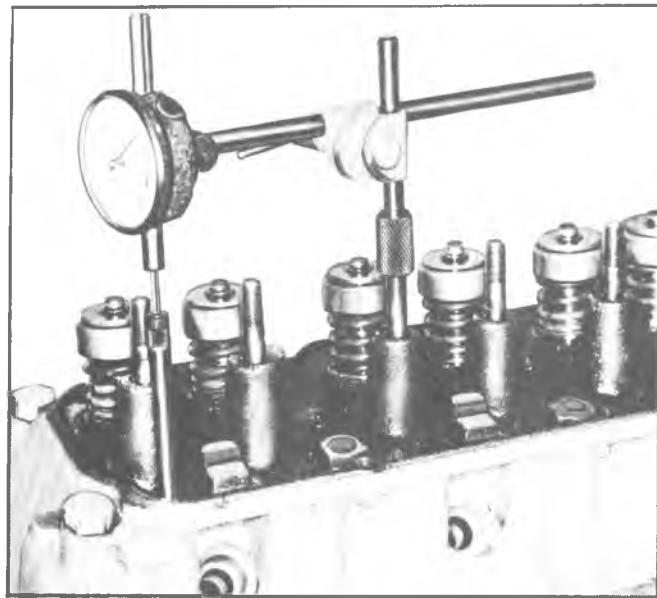

Fig. 24L—Measuring Camshaft Lobe Lift
- Position indicator with ball socket adapter (Tool J-8520) on push rod (fig. 24L).